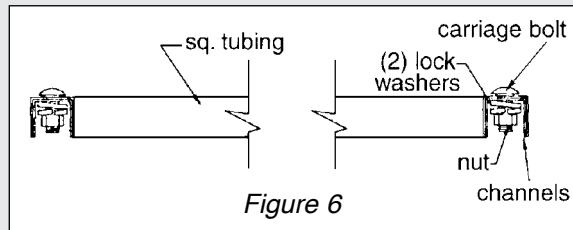

Figure 6
- Loosen hex nuts on adjustable sides of frame (see *Figure 6*), using 9/16" wrench. Adjust frame to desired size and tighten hex nuts. Hint: Using the selected tote box as a gauge makes adjustment easier.